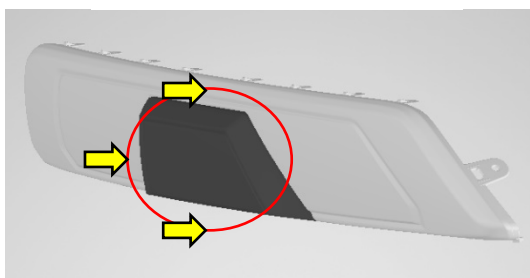

Fig. 12-1
- (a) Attach the closeout plate to tow hitch lower cover and secure each clip in the proper attach point (Figs. 12-1 & 12-2).